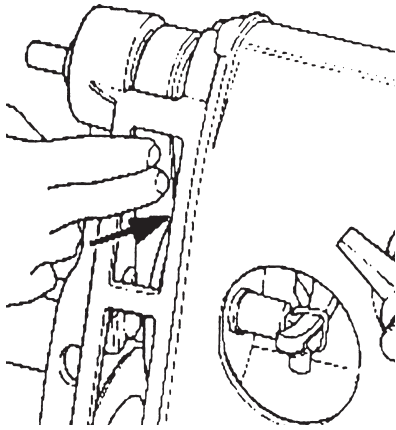

Figure 117
1. To check the Belt tension, remove the Belt Cover. With your fingers, push in on the Poly V-belt, as demonstrated in Figure 117. If you can push the Belt in more than 1/8" when applying pressure, the Belt needs to be tightened.